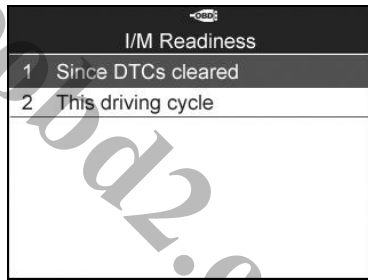

Figure 6.14
- 3) If the vehicle supports both types of tests, then both types will be shown on the screen for selection. (Figure 6.14)